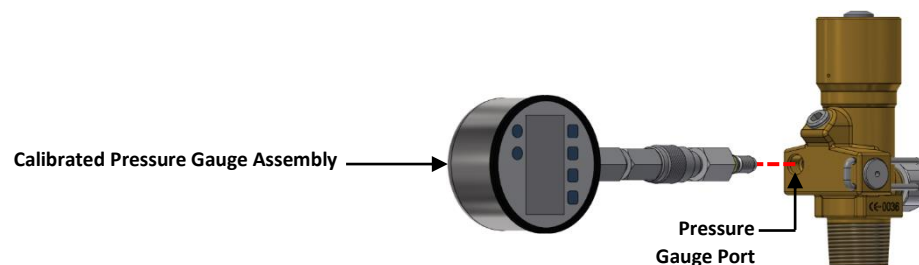

Figure 6.1-1 Pressure Gauge Assembly Installation
Step 2: Prior to installing the pressure gauge, lubricate the O-ring on pressure gauge assembly with Molykote 55 or its equivalent. Use care not to get lubricant into the pressure gauge port (Figure 6.1-1).